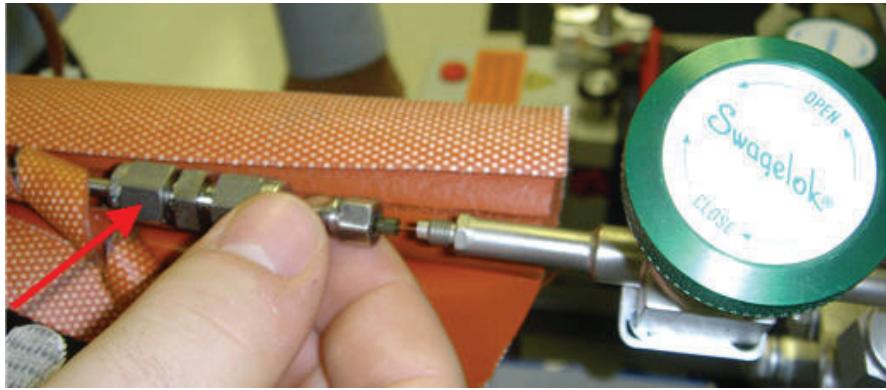

Figure 3
4. Loosen one end of the 1/8" Swagelok tube fitting located at each end of the stainless steel tubing (Figure 3).
5. Feed the end of the capillary tube where the heater's electrical connections are located into the valve end of the ProLine System (Figure 3).